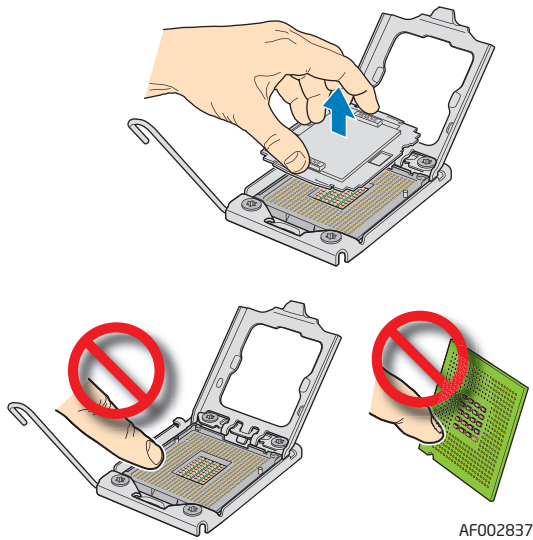

Figure 12. Removing the Protective Socket Cover
13. Remove the protective socket cover (see Figure 12).